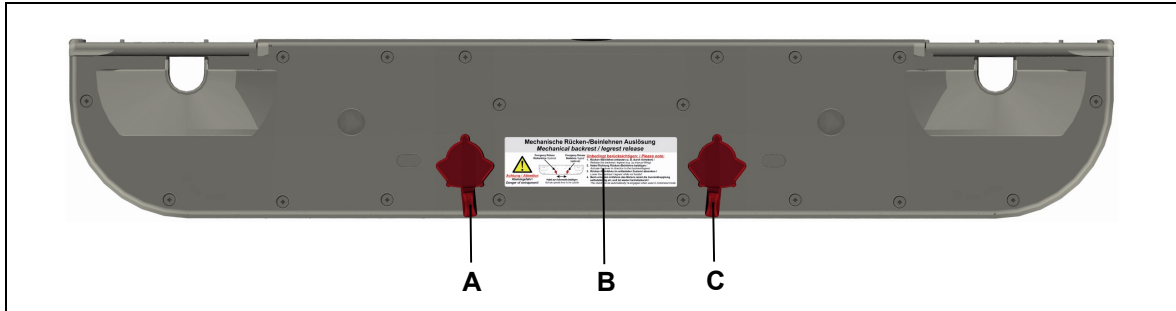

Figure 15 Back side of the DUOMAT 7, with mechanical reset function
- Take note of the information on the label located on the back of the double drive (refer to Figure 15).